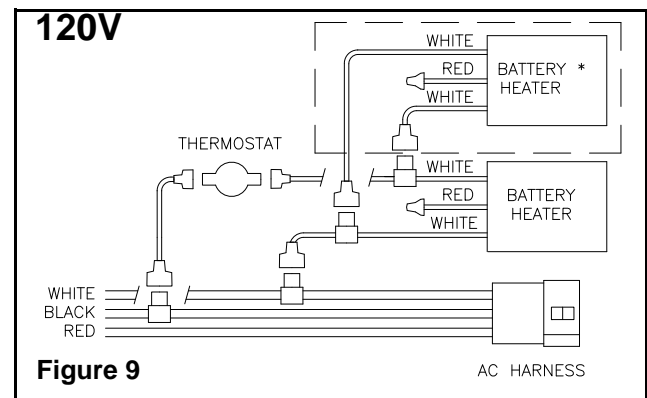
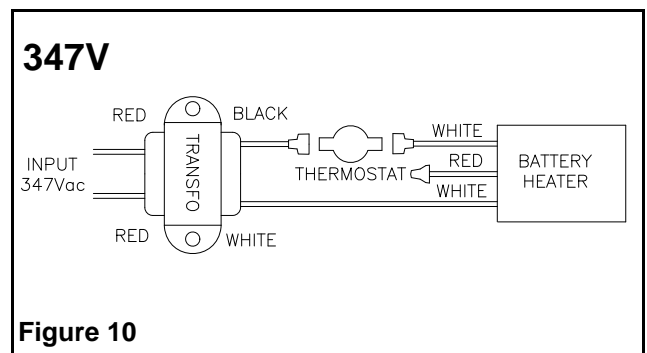

Figure 9
Figure 10
- c. Refer to figure 9 for 120VAC input voltage and to figure 10 for 347VAC. Use wire taps provided with the hardware kit to connect battery heater. Unused wires must be insulated to prevent shorting.